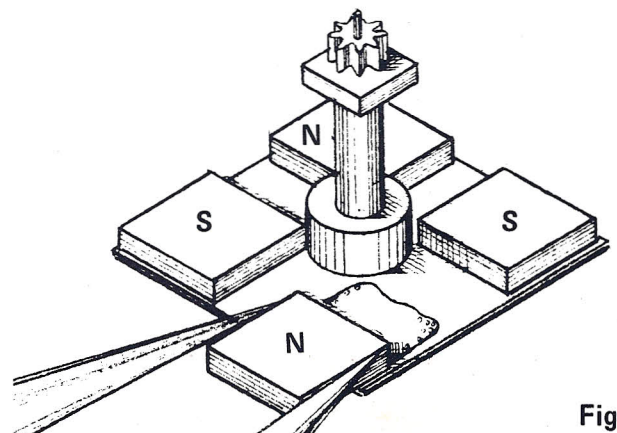

Fig. 9.
1. Place rotor on piece of "one touch" (rodico) and holding the loose magnet with a non-magnetic tweezer, approach the magnet next to the empty space on the rotor plate. See Fig. 9.